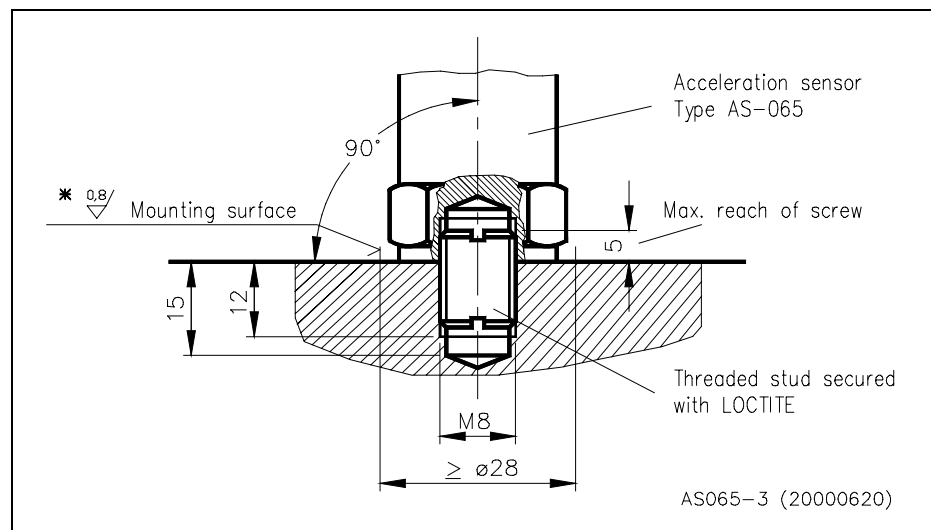

Fig. 3 Mounting
- ◆ Screw the stud into the mounting surface in accordance with fig. 3 and secure it (e.g. with LOCTITE 243 medium-bond, LOCTITE 270 heavy-duty bond).